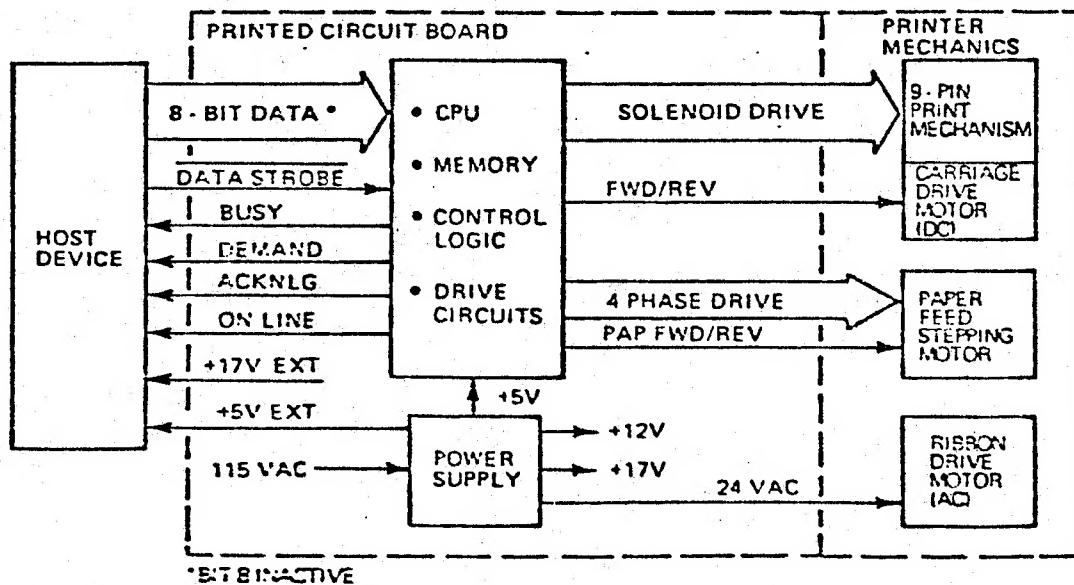

Figure 2-1 BASIC BLOCK DIAGRAM
2.1 BASIC DESCRIPTION (Figure 2-1)